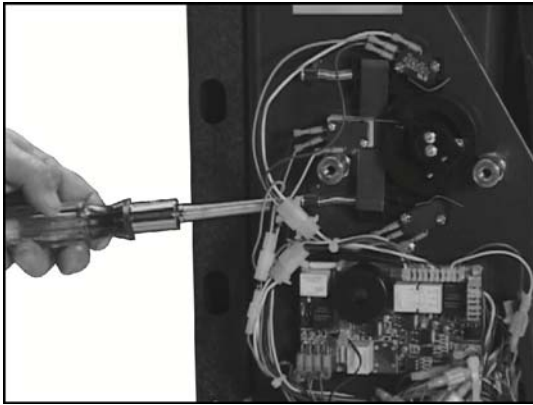

FIGURE 3-5: BOTTOM ADJUSTING SCREW
- b. Refer to **Figure 3-5 and 3-6**. Insert the screwdriver into the DEPLOY CUTOFF ADJUSTMENT SCREW (bottom adjusting screw) then deploy the platform to floor level. Push and hold control pendant DEPLOY switch.